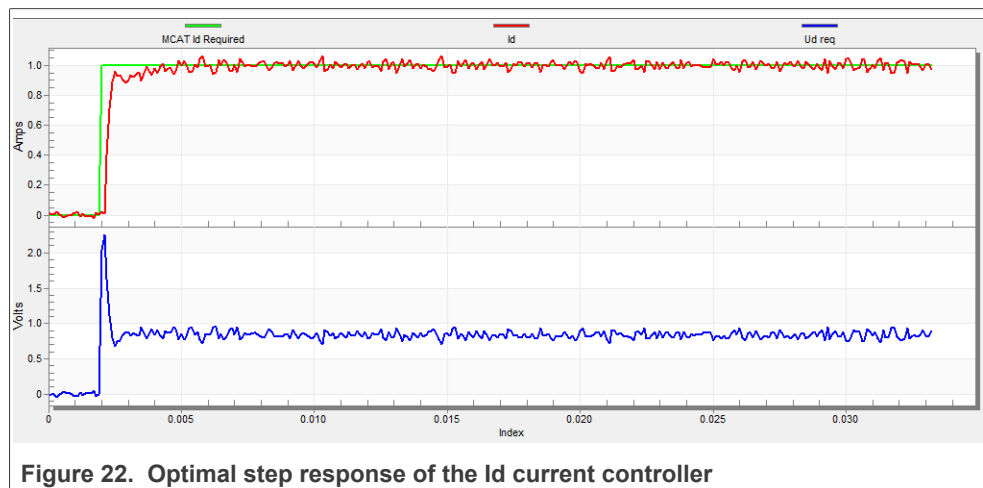

Figure 22. Optimal step response of the Id current controller
- The loop bandwidth (400 Hz) is optimal and the response time of the Id current is sufficient (see Figure 22).